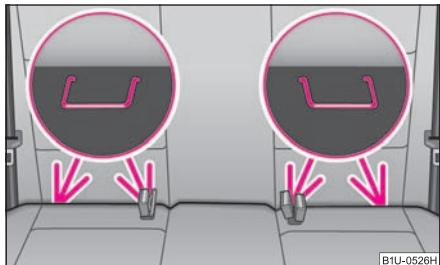

Fig. 132 Locking eyes (ISOFIX system)
- Insert the mounting funnels onto the locking eyes between the seat backrest and the seat cushion ⇒ fig. 132.